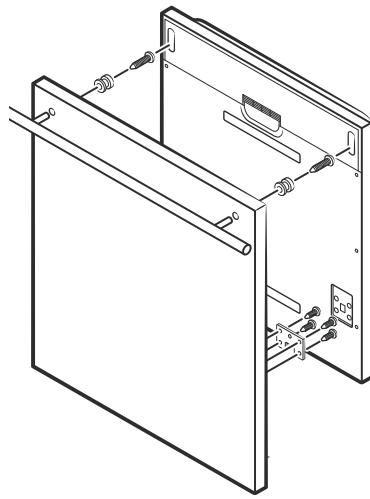
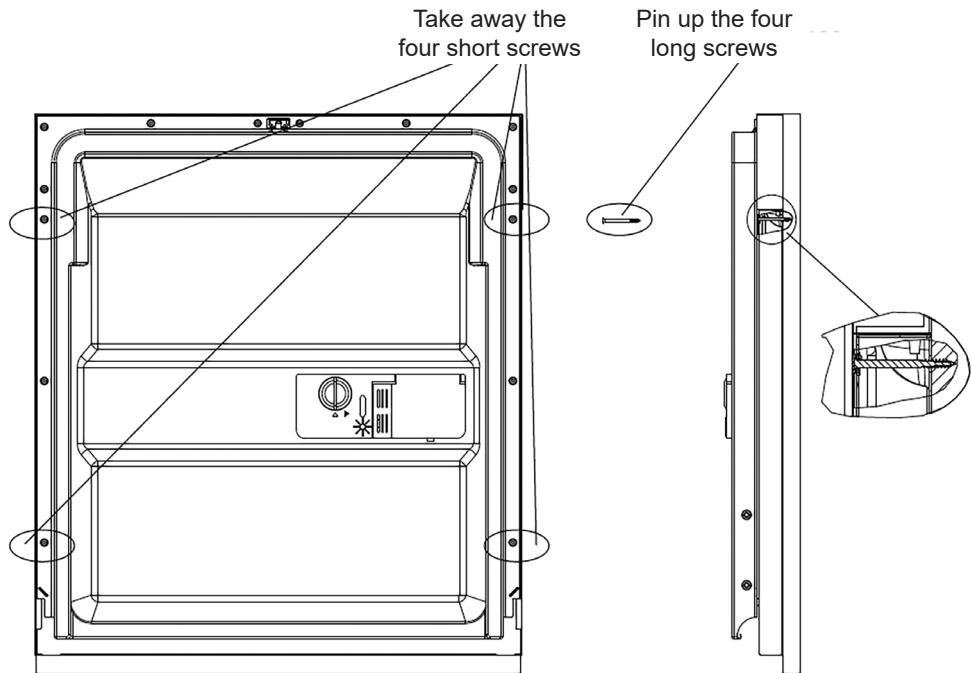

Figure 4a - Installation of aesthetic panel
Figure 4b - Installation of aesthetic wooden panel
2. Install the hook on the aesthetic wooden panel and put the hook into the slot of the outer door of dishwasher (*figure 4a*). After positioning of the panel , fix the panel onto the outer door by screws and bolts (*figure 4b*).